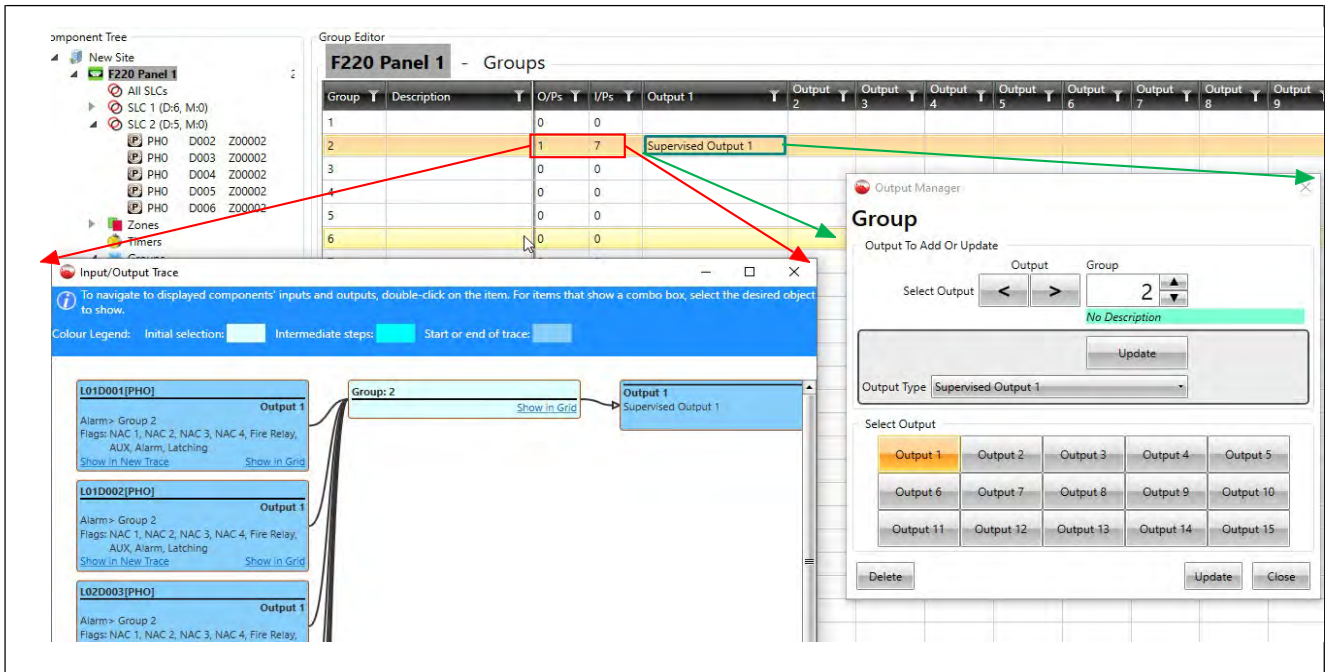

Figure 8-9: FireUtils' Group Editor, Output Manager and I-O Trace
6. Double click on Output 1 of Group 2 to display the Output Manager (Figure 8-9) and select Supervised Output 1 in the 'Output Type' drop down menu.
7. To display Group 2's input and output configurations, double click on Group 2's O/Ps or I/Ps cells (Figure 8-9).